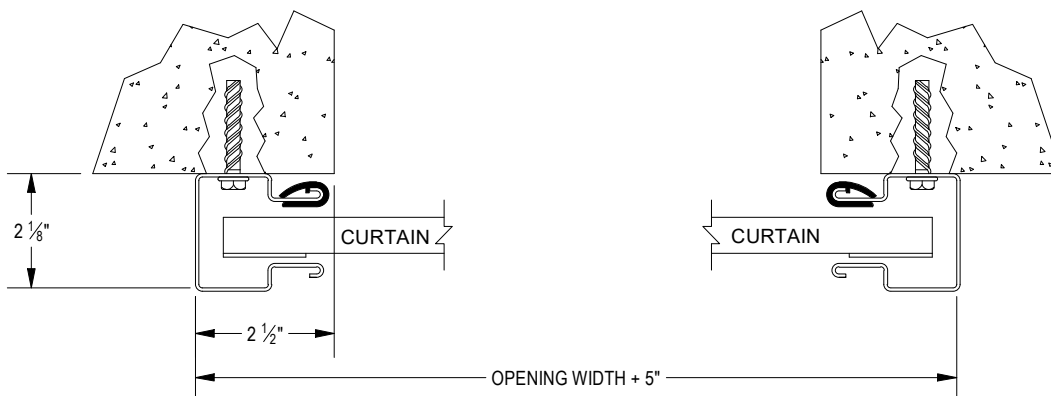

FIGURE 9: CONCRETE / MASONRY JAMBS
- **MASONRY JAMBS:** $\frac{1}{4}$ " X 1 $\frac{3}{4}$ " WEDGE BOLT+ **See Page 9, Figure 9.**